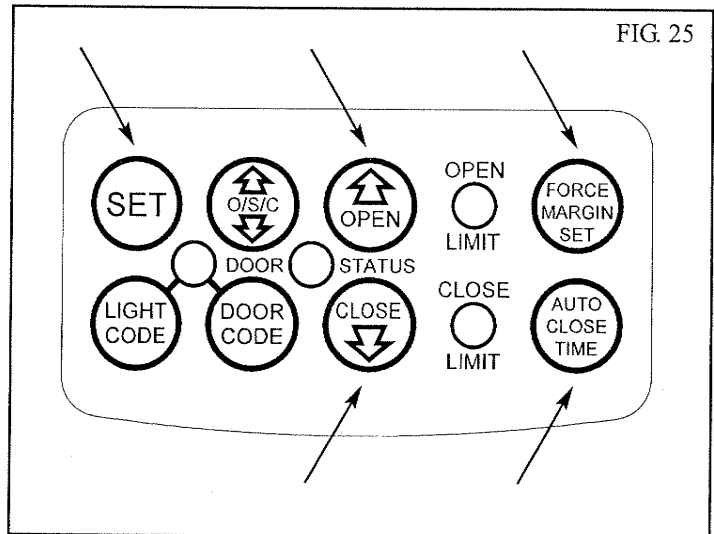

FIG. 25
1. Press and hold both the Auto Close Time button and Force Margin Set buttons (Fig. 25).